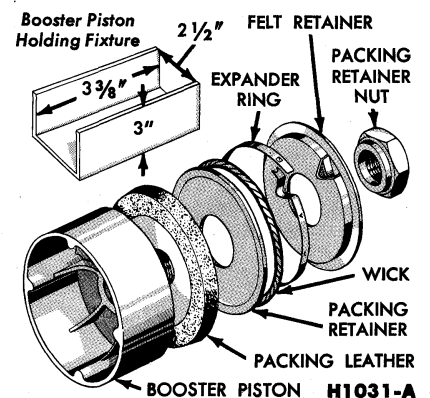

FIG. 6—Booster Piston—Disassembled
1. To disassemble the booster piston, use a holding fixture (Fig. 6), to prevent damaging the piston.